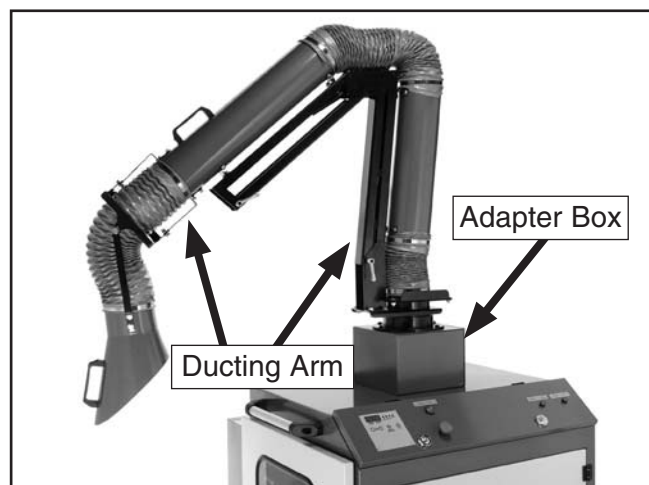

Figure 6. Ducting installation.
3. With the help of an assistant or hoist, install the base of the ducting arm on the top of the adapter box, and secure it in place with the six previously removed button head cap screws and washers (**Figure 6**).